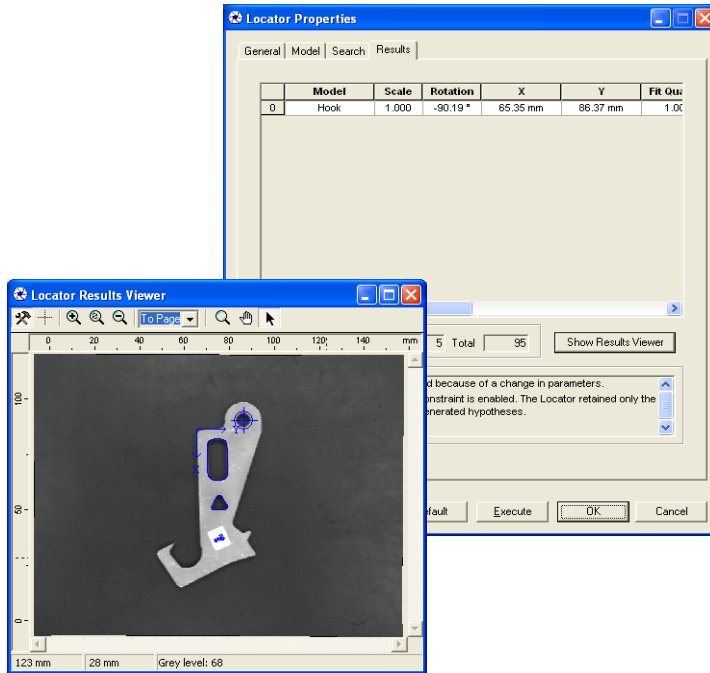

Figure 25 Results Viewer and Results Panel of the Locator Tool
4. Click **Show Results Viewer** to view the located instance superimposed on the Image, as shown in Figure 25.